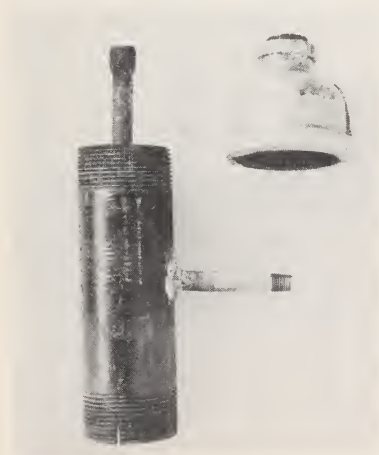

Figure 2.--Exhaust aerosol nozzle partly assembled.
The slotted cap (A) is then attached to a 1/8-inch pipe nipple (B) 4 inches long, and a 1/8-inch pipe elbow (C) is attached. Into a 1-1/2-inch pipe nipple (E) 6 inches long is drilled a hole 13/32 inch in diameter 2-5/8 inches from one end. A 1/8-inch pipe nipple (D) 3 inches long is put through this hole and attached to C. A 3/4-inch brass pipe nipple (G) 5/8 inch long is then attached to a pipe reducer (F) 3/4 to 1-1/2 inches in diameter, and the reducer to the pipe nipple E. D is then brazed to E so that A is centered in G. Figure 2 shows the nozzle partly assembled.